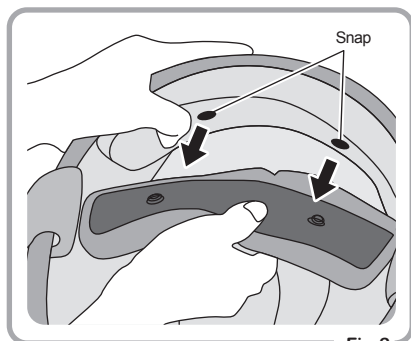

Fig.2
- ② Undo the 2 snaps at the rear, then the inner pad can be removed. (Fig.2)